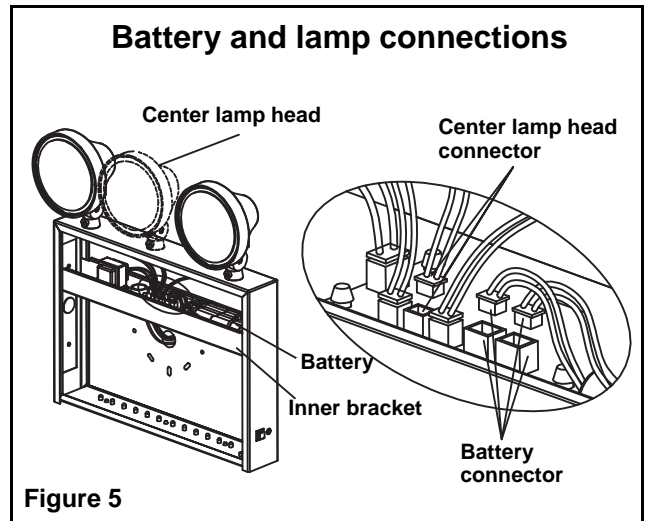

Figure 5
9. Connect battery connector to the PCBA (see figure 5).